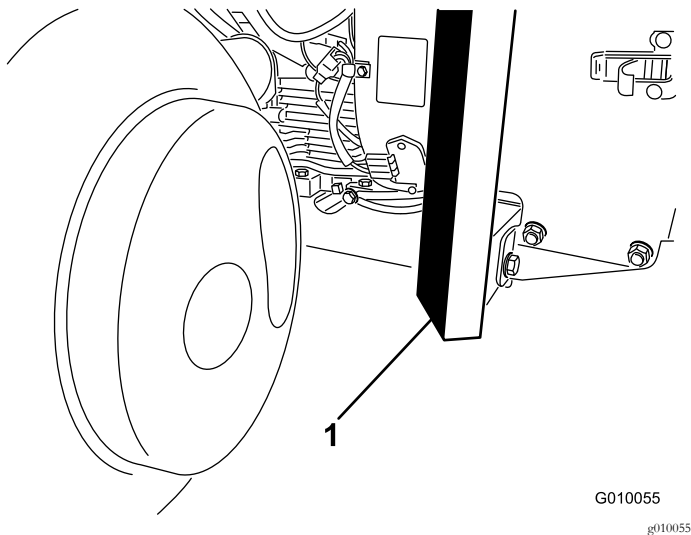

Figure 40
3. Position the jack securely under the front of the frame (Figure 40).